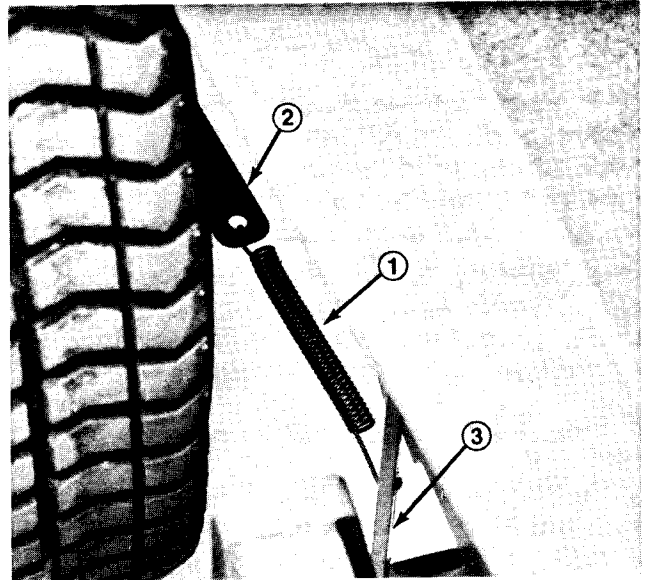

Figure 25
2. Use a pair of locking pliers to remove the end of the brake springs from the slotted holes in the suspension frame (Fig. 25).